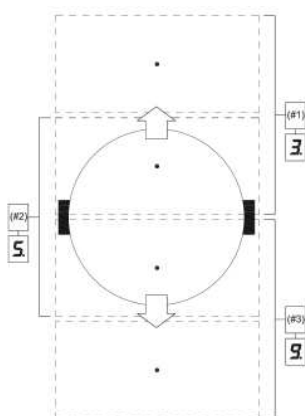

Fig. 31
This function allows to divide the flexible zone into three areas (see fig. 31) and activates a predefined power configuration. It will allow slide the vessel from one area to another, to cook with the power assigned to each zone.
- (see fig. 31 and 30).